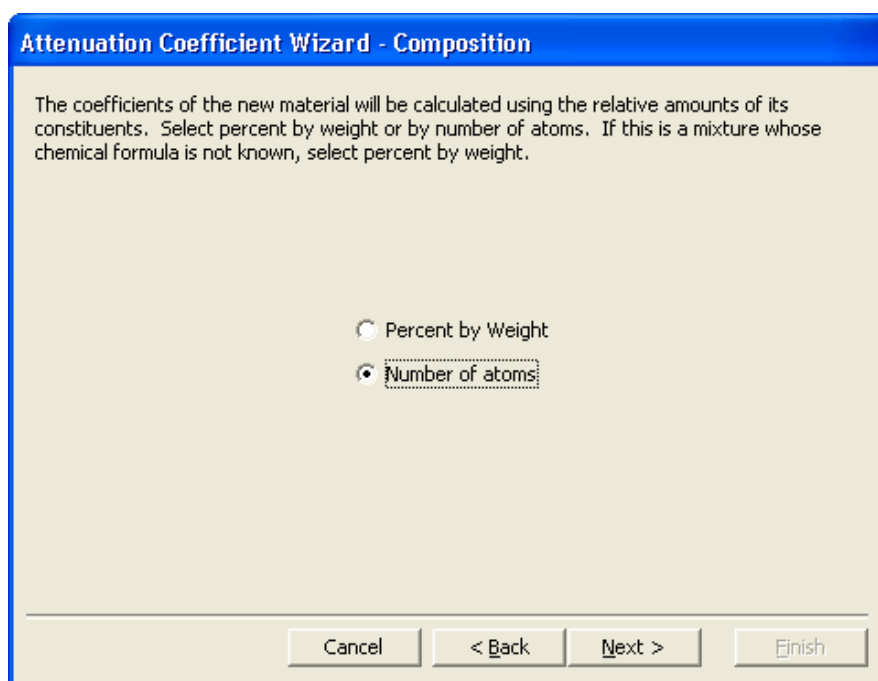

Figure 104. Choose How Relative Amount Is Determined.
- Click on **Next** to continue to the Composition page (Fig. 104).